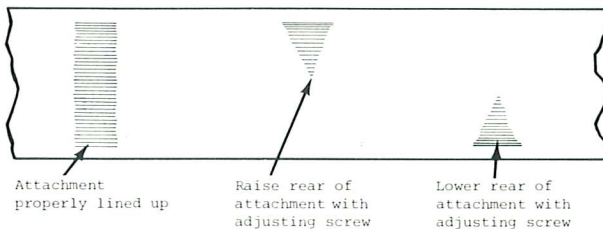

Fig. 9I. Wheel marks on surface of test block.
3. Feed the rotating wheel down slowly until it contacts the work, then "read" the witness marks on the surface of the work. (See Fig. 9I.)